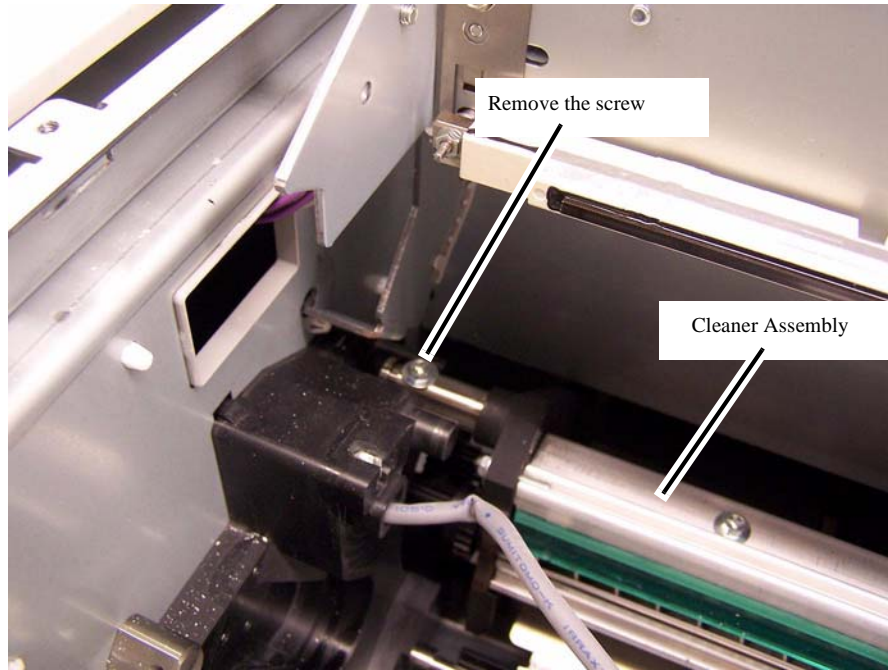
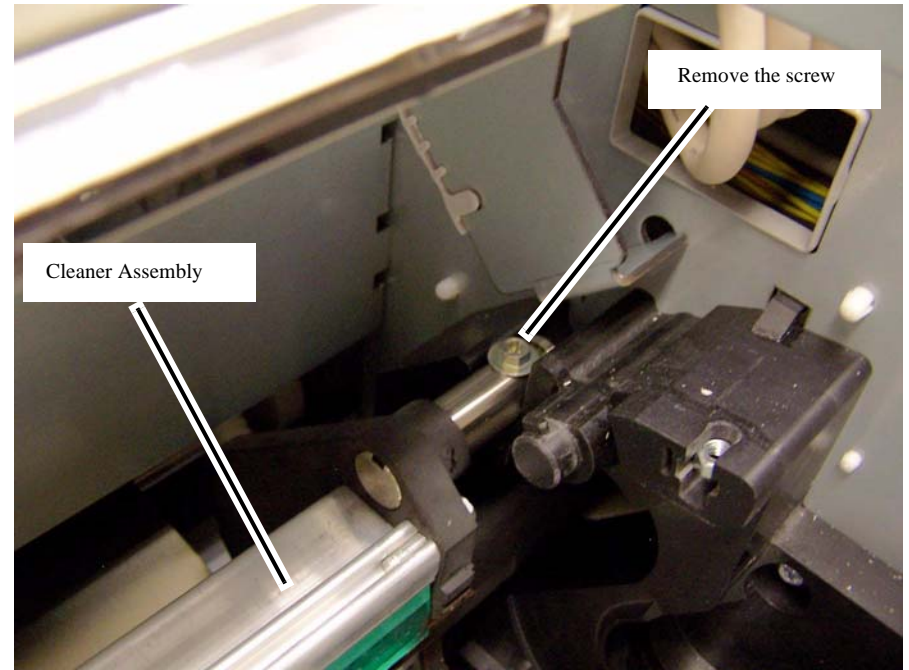

Figure 1 Cleaner Assembly left retaining screw
Figure 2 Cleaner Assembly right retaining screw
- a. Remove the screws (2) that secure the Cleaner Assembly in the machine (Figure 1 and Figure 2).